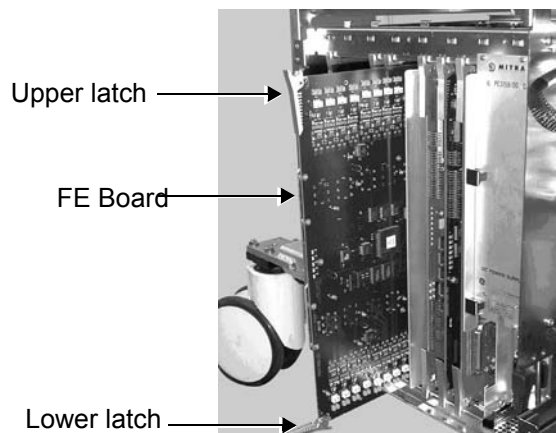

Figure 8-42 Front End Boards
- 3) Release the plastic latches located at the top and the bottom of each card (board) - see Figure 8-42.